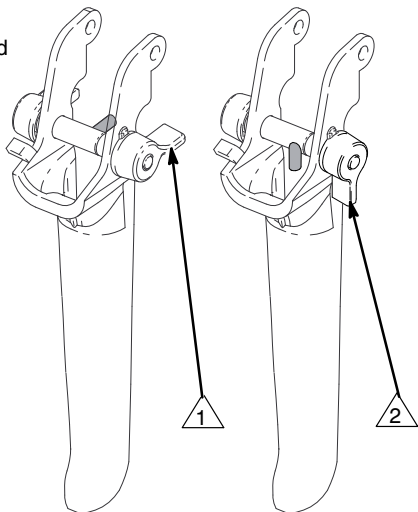

Fig. 5 7186A
When engaged, the gun safety latch prevents the gun from accidental triggering. See Fig. 5.
4. **Turn the pressure knob (64) to the minimum setting.**
5. **Disengage the gun trigger safety.** See Fig. 5, page 8.